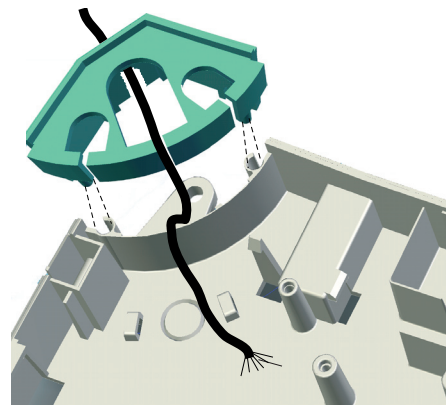

Figure 6 – Secured cable entry over edge
- Secured cable entry can easily be achieved by entering the cable over edge (before the corner elements are re-fixed). See figure 6.